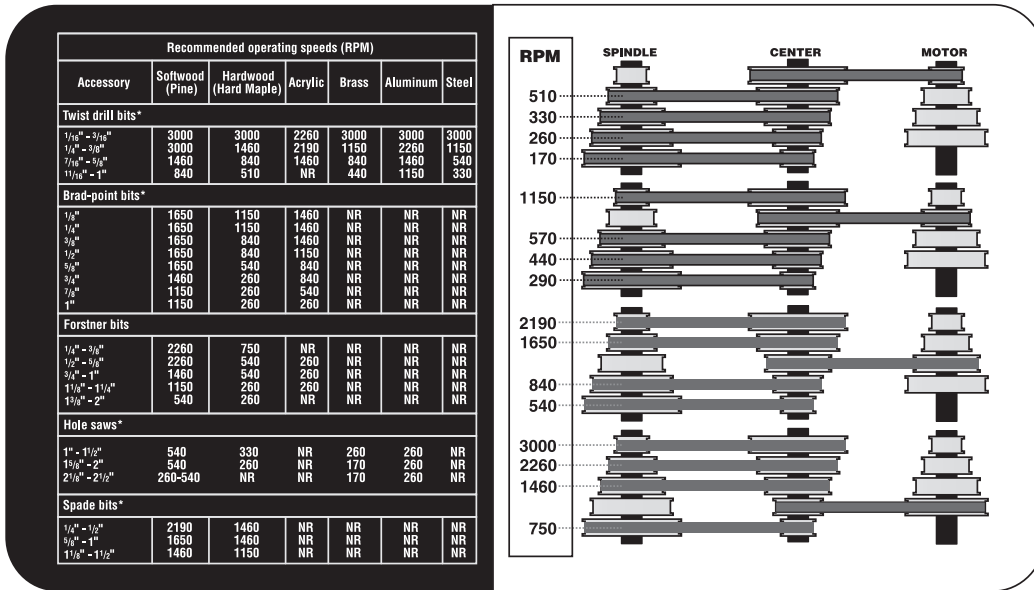

Fig. 38
Sixteen spindle speeds are available on the drill press. Fig. 38 illustrates the belt positions and the corresponding speeds.
3. Choose the appropriate speed for the tool you are using and position the belts on the pulleys accordingly. See chart (Fig. 38) on the inside cover of the drill press head.